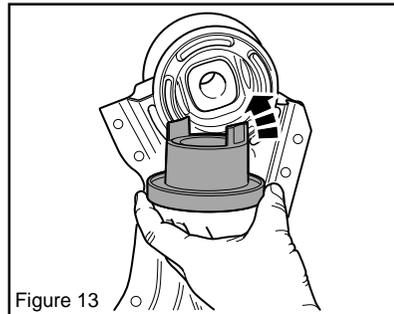
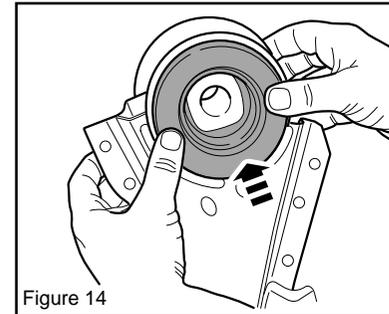

Figure 13
Figure 14
13. Install the 9170B bush into the bottom of the rear lower cradle mount OE bush using a small amount of grease supplied. (Figure 13 & Figure 14).